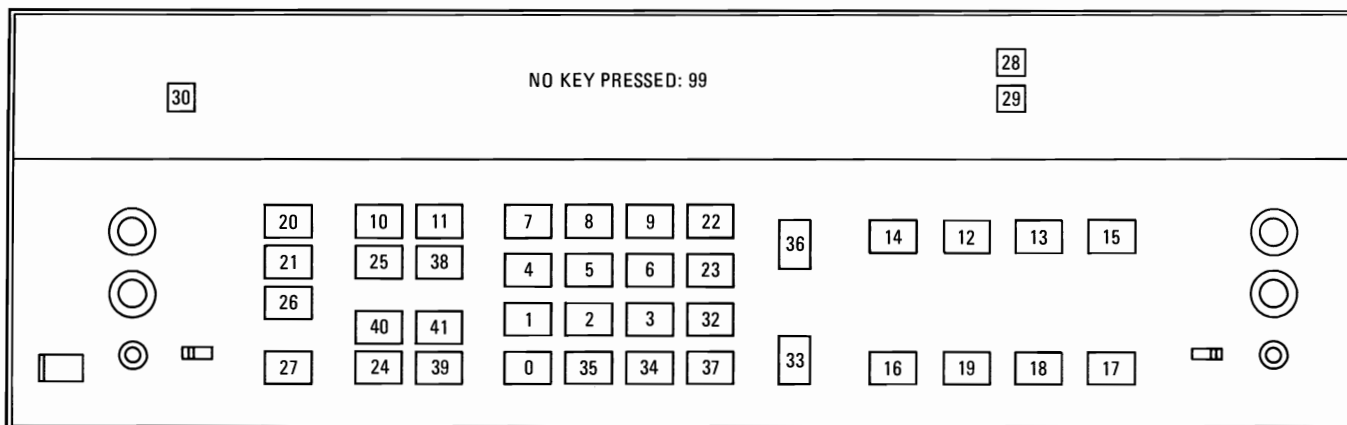

Figure 8-6. Key Codes for Key Scan (Service Special Function 60.0)
- 60.0 Key Scan.** The keyboard is scanned and a keycode is displayed and output to the HP-IB. The key codes are shown in Figure 8-6.